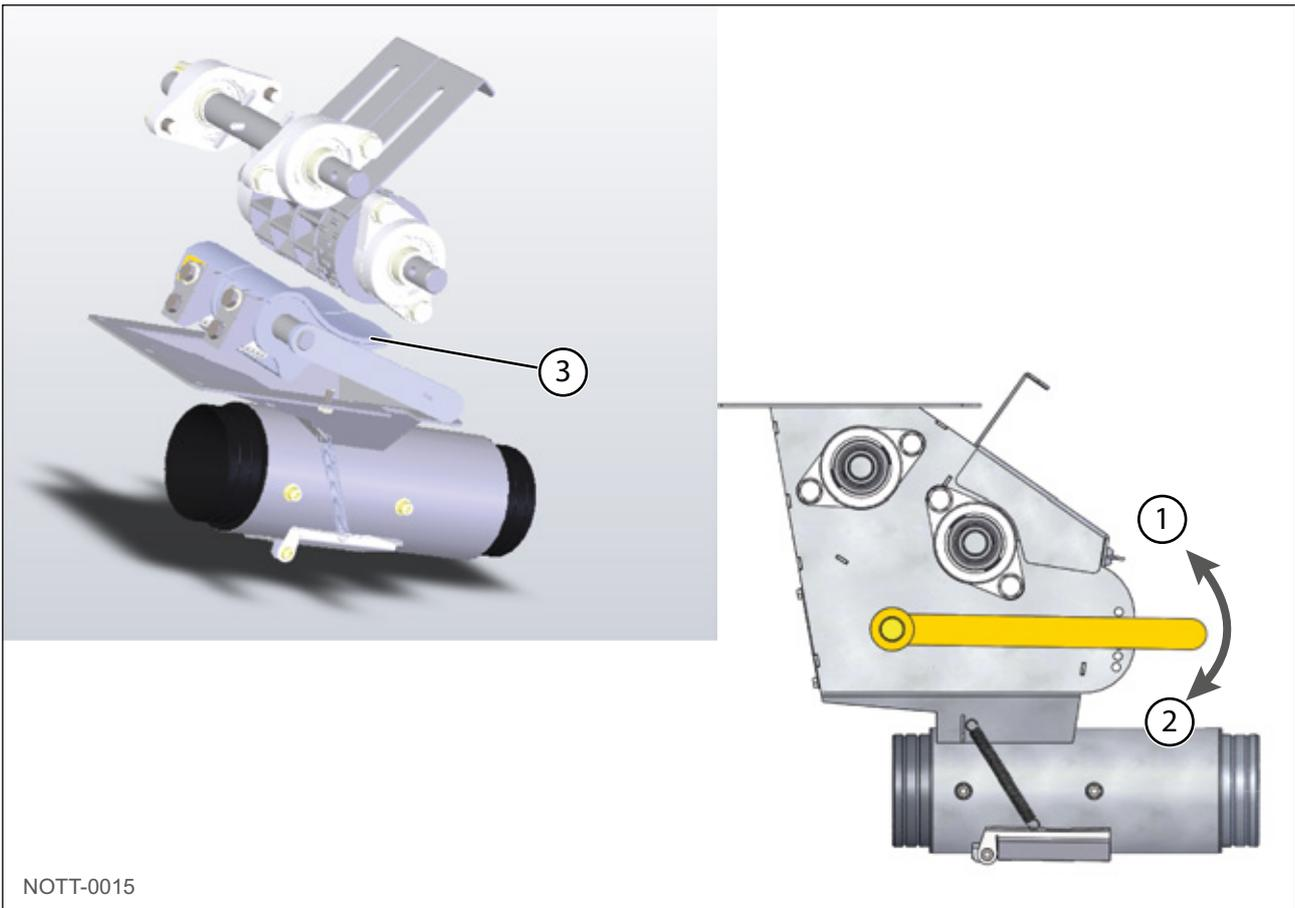

Fig. 32
The opening lever is shown in the hopper emptying position in the in the illustration in “Fig. 32”, page 49.
- Place the feed cup opening lever to position 2 (see "Fig. 32", page 49).